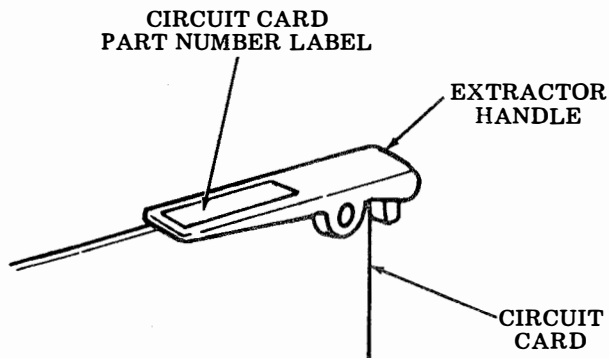

Fig. 4—Label Location
- ② After installation of the 405476 socket, visually examine the circuit board for solder splashes and/or damaged circuit lands. Repair, if necessary.
- ③ Install the 404617 ROM pack in the newly installed socket. Make sure all of the pack pins are inserted into the socket and are not bent under. Use caution when inserting the pack, because undue force could fracture the case, and/or break off the pack pins. Make sure the index mark on the pack is toward the top of the card. (Pin 1 is in upper left-hand corner).
- ④ Remove old part number label (Fig. 4) from the front extractor handle (if present).
- ⑤ Remove paper backing from a 407510 label ("402327 Kit Installed"). Affix label to front card extractor, as in Fig. 4.